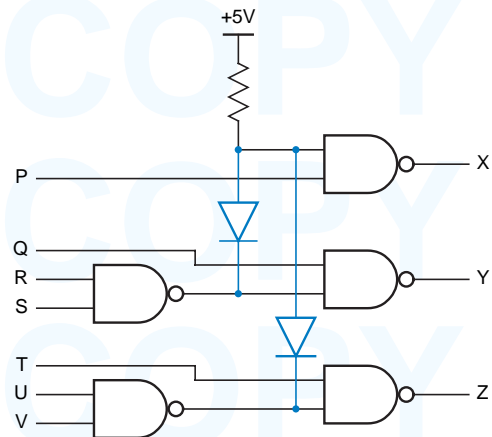

Figure X3.95
- 3.95 A logic designer found a problem in a certain circuit’s function after the circuit had been released to production and 1000 copies of it built. A portion of the circuit is shown in Figure X3.95 in black; all of the gates are 74LS00 NAND gates. The logic designer fixed the problem by adding the two diodes shown in color. What do the diodes do? Describe both the logical effects of this change on the circuit’s function and the electrical effects on the circuit’s noise margins.